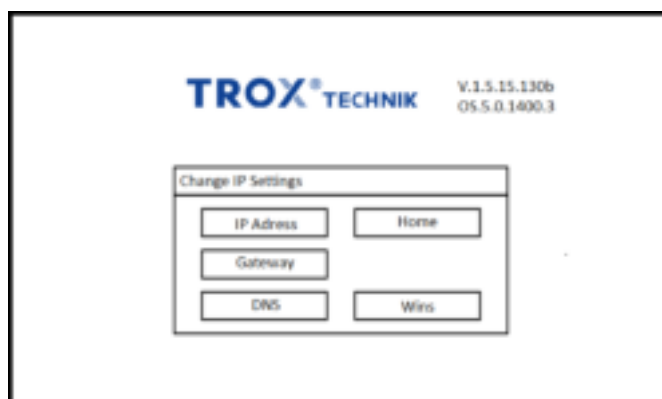

Fig. 59: Change IP Settings
7. ▶ In the 'IP Address' window enter the new IP address and subnet for the touch panel. Confirm your entries with 'OK'. In the 'Change IP Settings' window (Fig. 59) select 'Gateway'.
8. ▶ In the 'Gateway' window enter the new gateway settings. Confirm your entries with 'OK'. In the 'Change IP Settings' window (Fig. 59) select 'Home' and accept that changes are saved.